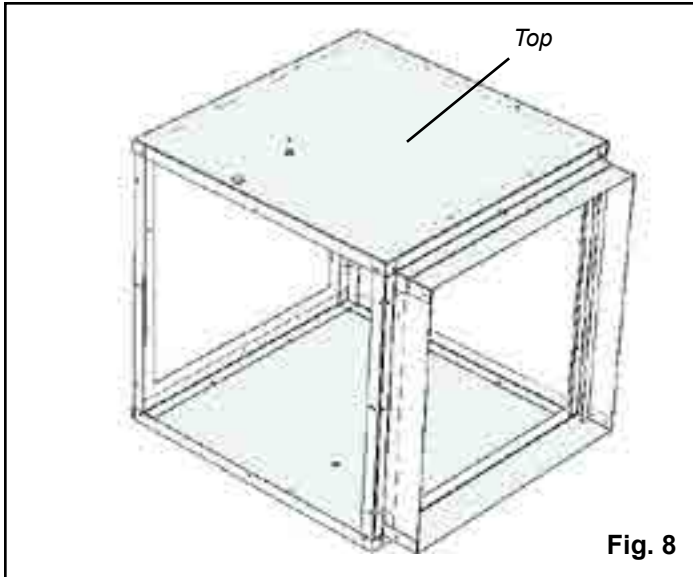

Fig. 8
- Place the top on the filter box as shown in figure 8. At this time all Tek screws can be inserted around the filter box.